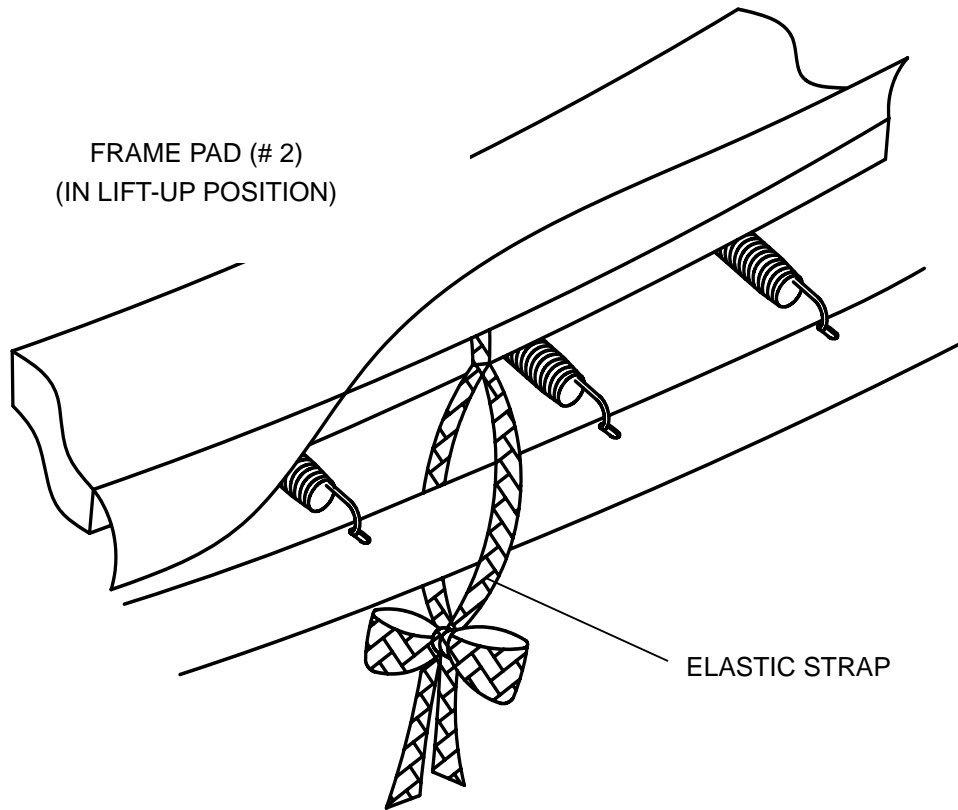

FIGURE 13
- B. Tie the remaining elastic straps around the trampoline frame as shown in FIGURE 13. Pull tightly so that the frame pad securely covers the frame.